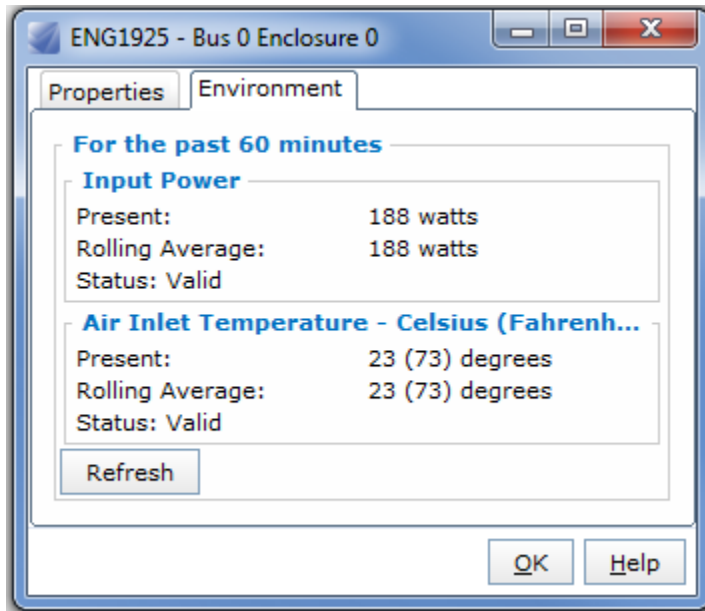

Figure 4. Energy information provided in the Unisphere Environment tab
- Provide adaptive cooling, in which an array adjusts the power supply fan speeds to spin only as fast as needed to ensure sufficient cooling. This optimizes blower speeds and energy consumption. The power supplies have an onboard sensor that provides energy information reporting. The reports include input power and air inlet temperature for each enclosure on the array, as well as input power reporting at an overall array level. The values are based on a rolling average for each hour that is reported in the Unisphere GUI, as shown in Figure 4.